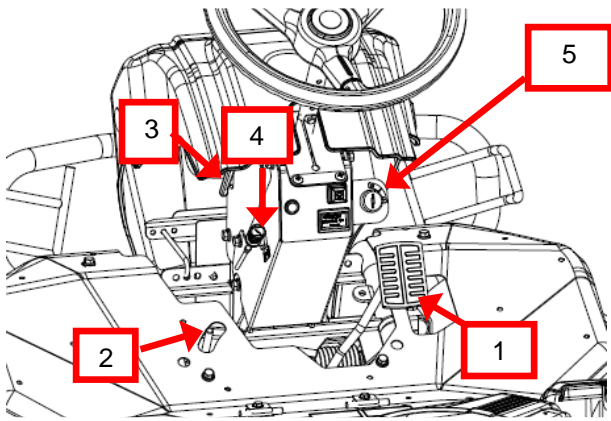

Figure 6a (model RM882 & RM952)
The brake pedal is used in case of emergency or when the parking brake is locked (1, Fig 6a & 6b). When brake pedal is pressed, travel speed lever is automatically moved to neutral position « N ».
To lock parking brake, press the brake pedal (1, Fig 6a & 6b), then turn the locking lever (2) to the right. Press again and release the pedal to unlock the parking brake.
When the handle angle lever (3, Fig 6a & 6b) is loose, handle angle can move freely. Securely tighten the tilt lever until it is fixed.
Pull the choke lever (4, Fig 6a & 6b) to start cold engine, and release it gradually when engine become hot.
The Ignition key (5, Fig 6a & 6b) is used to start and stop the engine.